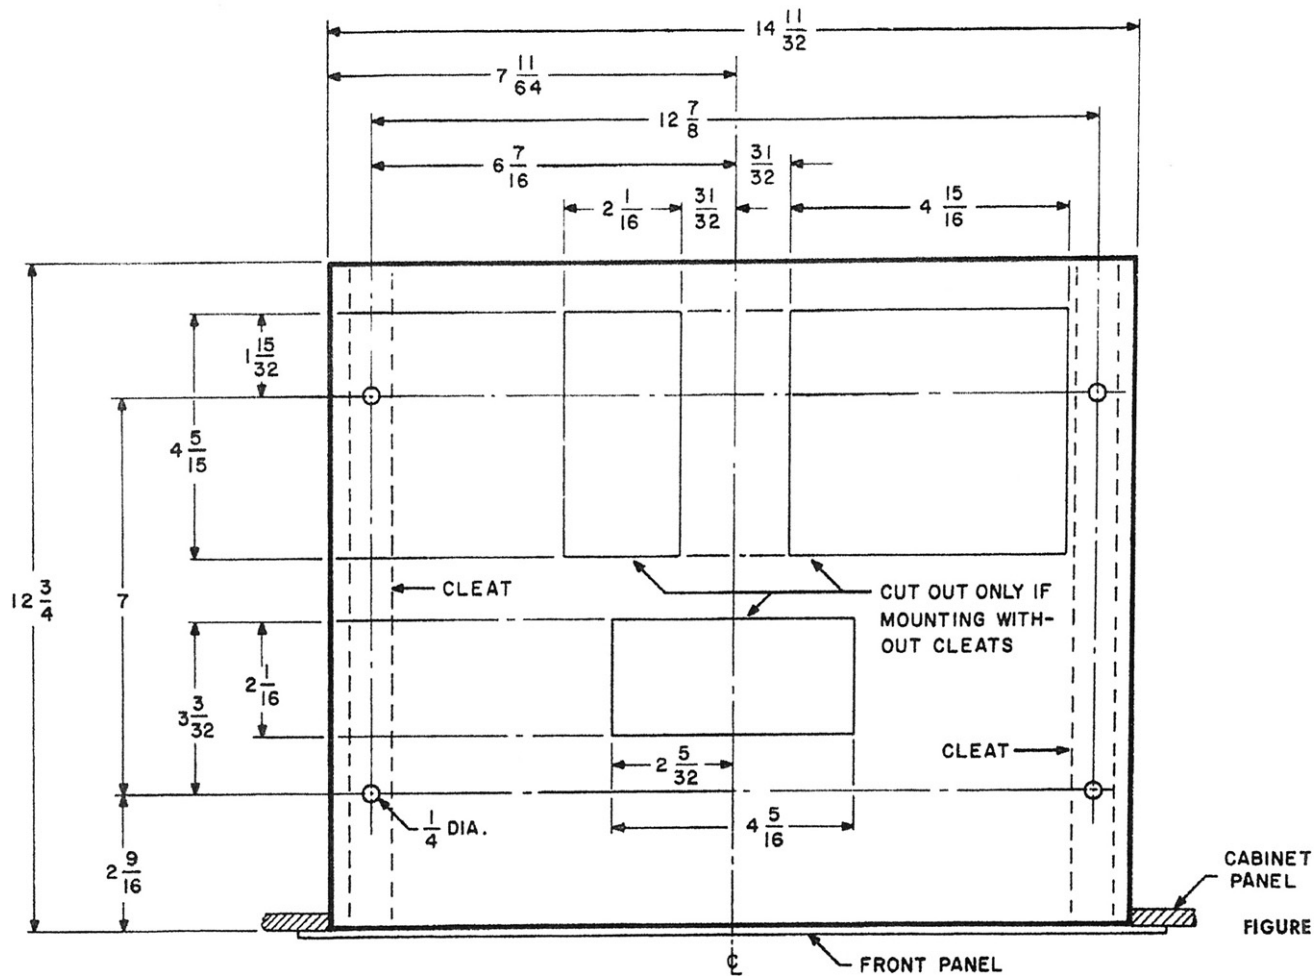

FIGURE 4. Custom installation.
- 2 — Fasten the two cleats to the top of the mounting board as shown in Figure 4 with wood screws. The screw heads should be flush with the top of the cleats. Then locate and drill four $\frac{1}{4}$ -inch holes through the mounting board and cleats as shown.
- 1 — Locate and drill four $\frac{1}{4}$ -inch diameter holes in the mounting board of the cabinet as shown in Figure 4.
- 2 — Saw the three cutouts shown in Figure 4 in the positions shown. It is absolutely essential that these cutouts be made in order to assure the many years of trouble-free service that the *MF-300* normally provides.